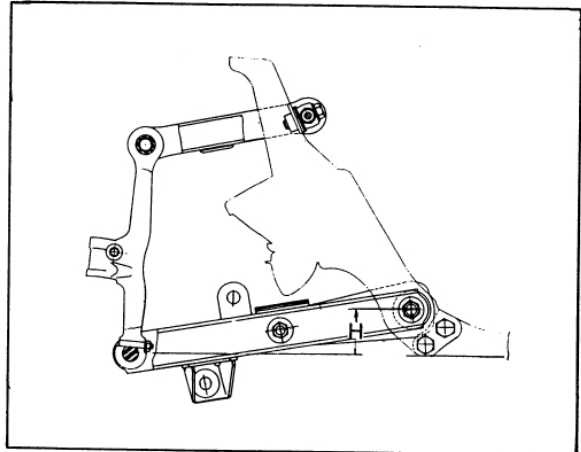

Fig. FA-34 Dimension for standard vehicle posture
3. Adjust "H" dimension with anchor bolt adjust nut. "H" dimension changes approximately 3.5 mm (25.3 in) vertically when adjust nut is turned one complete turn. See Figure FA-34.